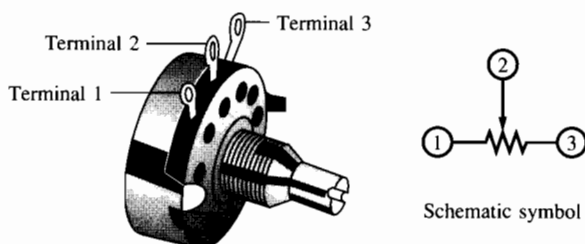

Figure 3-2
3. Obtain a potentiometer. Number the terminals 1, 2, and 3 as illustrated in Figure 3-2.